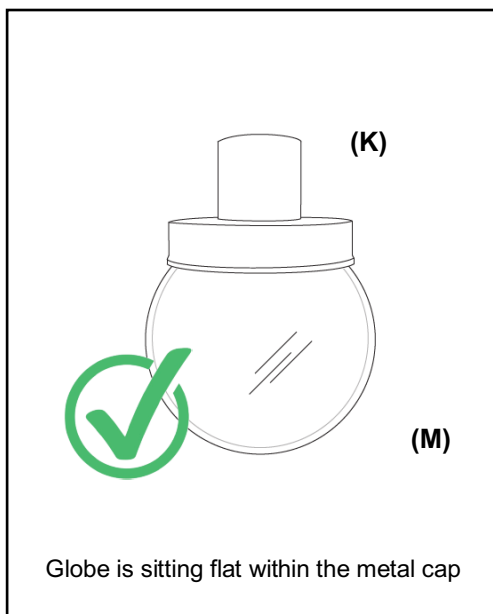
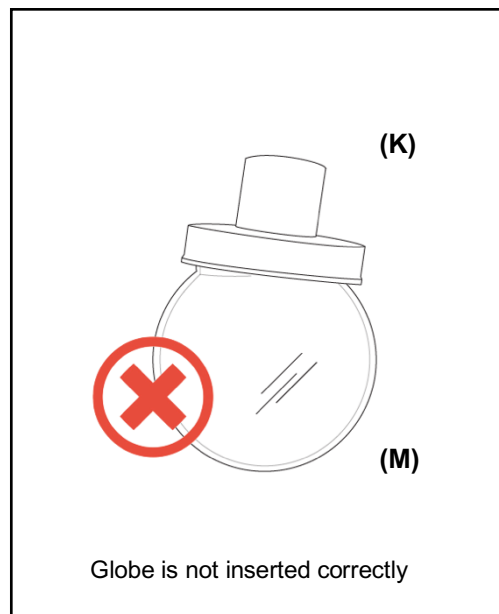

Fig 1
Fig 2
To adjust the suspension length of the fixture (Fig 1):
(Fig 1)
- 5) Re-insert the cord first through the Canopy Loop (H) and then through the Grounding washer (F), Hex Nut (E) and into the crossbar's threaded pipe. Pull the cord through tightly so that the chain's Quick Link (I) can attach to the Canopy Ring (H). (Fig 2)
- 3) Place one hand on the Metal Cap (K) to prevent it from spinning
- 4) With the other hand, carefully rotate the Glass cover (M) in a counter-clockwise direction until it becomes loose. Set Glass Globe down while bulb is replaced.
- 5) Insert one (1) 60w max light bulb
- 6) To reattach glass globe, first place one hand on the Metal Cap (K) to prevent it from spinning
- 7) With the other hand, insert the glass globe until you can feel it sit entirely flat within the metal cap (Fig 1). Check visually from all angles that the globe is fully inserted and in a flat position before you begin to turn. **ENSURE GLASS COVER IS SITTING FLAT INSIDE THE METAL CAP BEFORE ROTATING.** If the globe is not sitting flat, it will not connect properly with the threading (Fig 2). **NOTE:** Getting the globe to sit flat may take a few attempts since alignment with the threading is specific.